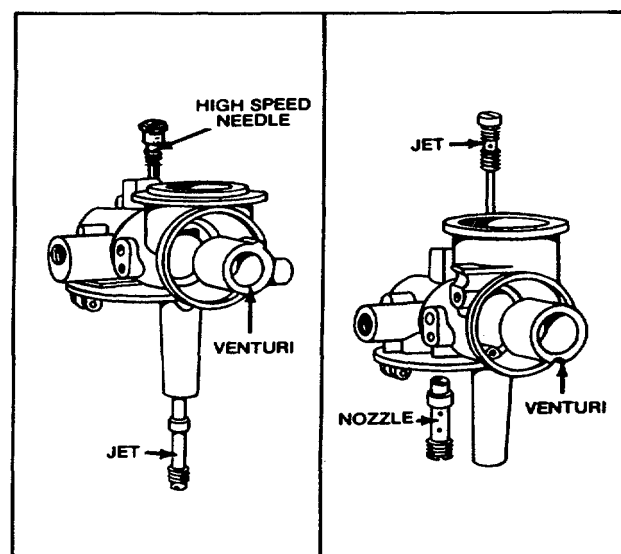

Fig. 76 - Repair Carburetor
Use new parts where necessary. Always use new gaskets. Carburetor repair kits are available. See illustrated parts list for particular model. If throttle shaft and/or venturi has been removed, install throttle and throttle shaft first. Then install venturi. Now install jet on small one piece or nozzle on large one piece Flo-Jet. The nozzle or jet holds the venturi in place, Fig. 76. Replace choke shaft and valve. Install new welch plug using sealer around edge of plug. Stake plug in two (2) places. Sealer is to prevent entry of dirt into engine. Install float bowl, idle and high speed adjustment needles.